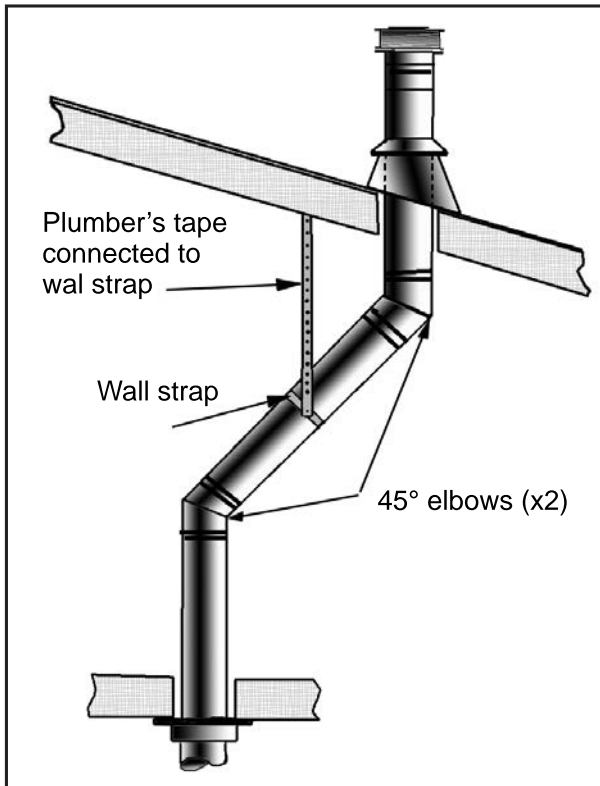
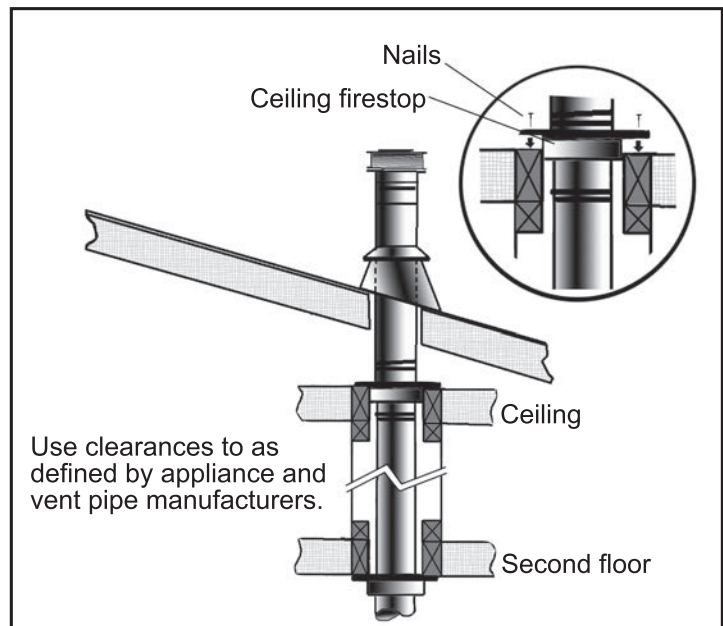

Figure 55: Use of Wall Straps.
Figure 56: Multi-Story Vent Pipe Installation
- (1) If an offset is necessary in the attic to avoid obstructions, it is important to support the vent pipe every **3' (914 mm)**, to avoid excessive stress on the elbows, and possible separation. Wall straps are available for this purpose (see Figure 55).
- (2) When ever possible, use 45° degree elbows instead of 90° degree elbows. The 45° degree elbow offers less restriction to the flow of flue gases and intake air.
- (3) For multi story installations; a ceiling firestop is required at the second floor, and any subsequent floors (see Figure 56). The opening should be framed to **10" (254 mm) x 10" (254 mm)** inside dimensions, in the same manner as shown in Figure 47.
- (4) Any occupied areas above the first floor, including closets and storage spaces, which the vertical vent passes through, must be enclosed. The enclosure may be framed and sheet-rocked with standard building materials. However consult the appliance manufactures installation instructions for the minimum allowable clearance between the outside of the vent pipe, and the combustible surfaces of the enclosure. Do not fill any required air spaces with insulation.